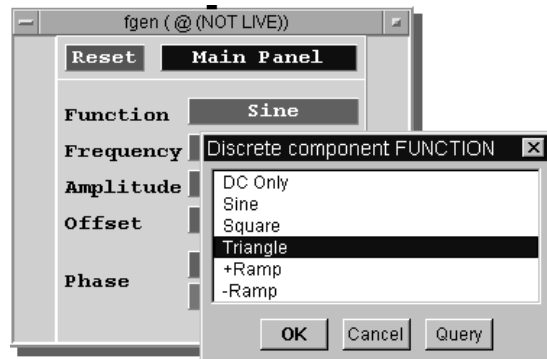

Figure 88 The Function Pop-up Menu on fgen
- 5 Click **Sine** in the Function field to get a pop-up menu, and then select Triangle as shown in Figure 88.